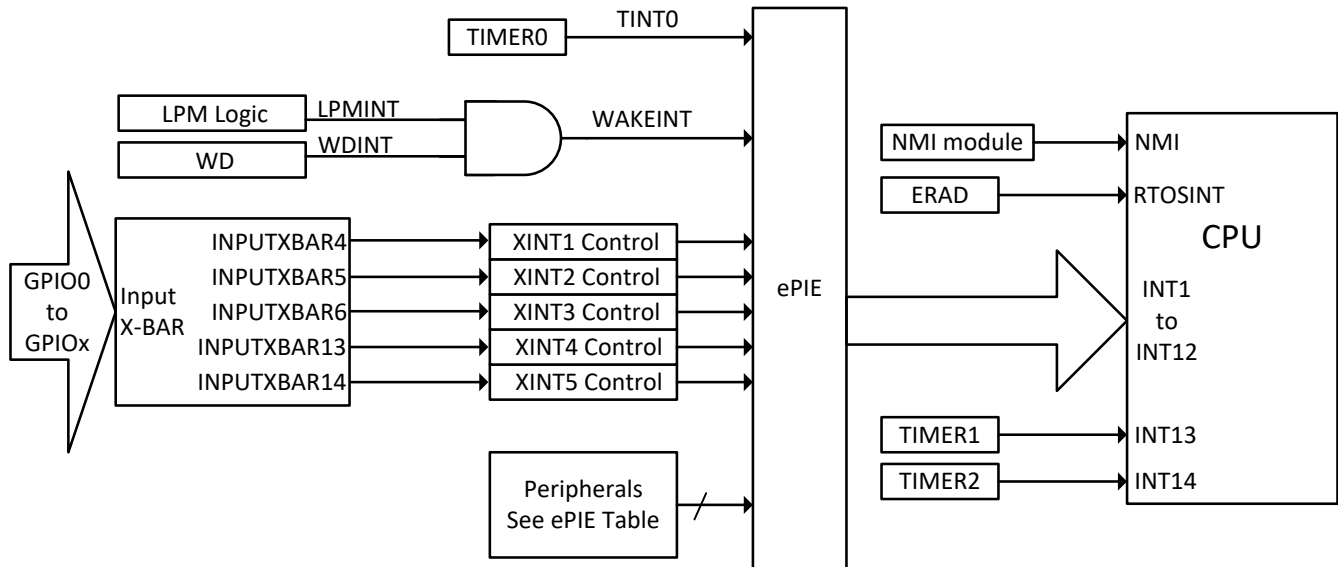

Figure 2. Interrupt Triggering Source (F28003x)
1. Receive the interrupt request. Suspension of the current program sequence must be requested by a software interrupt (from program code) or a hardware interrupt (from a pin or an on-chip device), as described in Figure 2.